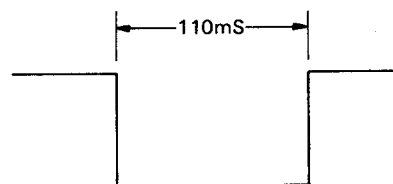

Figure 105.
1. Put the set in play (FS) mode.
2. Observe the output of I2005 (pin ⑨) on oscilloscope (external trigger, DA, pin ⑧ ⊖), and adjust R2041 (stop control) so that the resultant level will be as shown in Fig. 105.